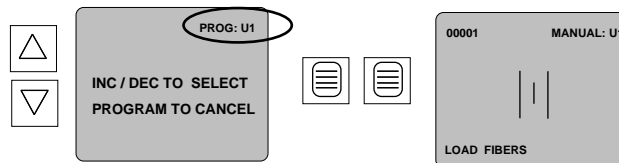

Figure 59
- f) **To save the new program:** press the Increment/Decrement keys and the number displayed as "U?" will change. When you are satisfied with the number selected, press the Program key. This will store the program as the user selection indicated. Press Program again to return to the set's operating mode (Figure 59).